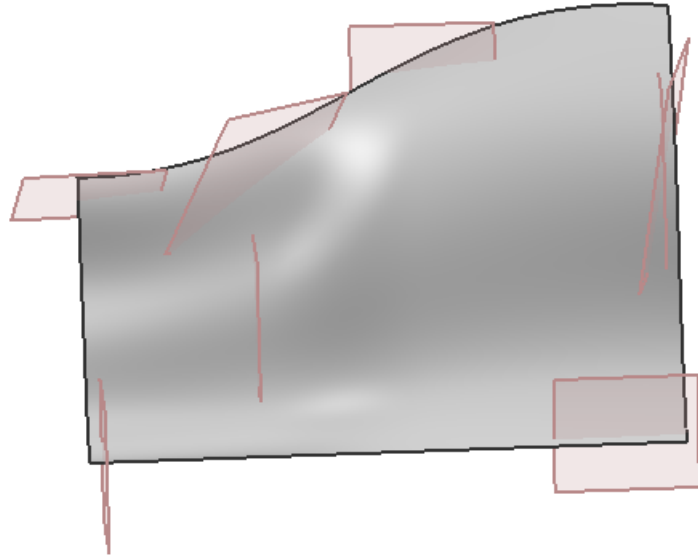

Figure 2–2
1. Open **MODEL\_SETUP\_A.prt**. The model displays as shown in Figure 2–2.